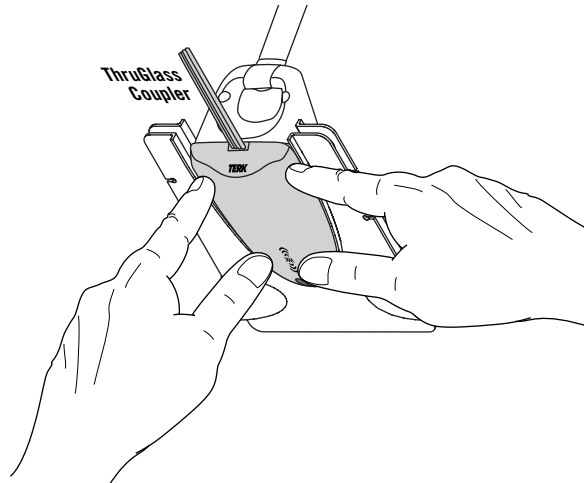

Figure 17. Firmly pressing down on the ThruGlass Coupler.
14. With the template properly located, peel off the protective backing from the ThruGlass Coupler. Starting with the front, carefully place the unit into the template and, using steady pressure, firmly press the ThruGlass Coupler down onto the glass for a minimum of 60 seconds, as shown in Figure 17 on the next page.